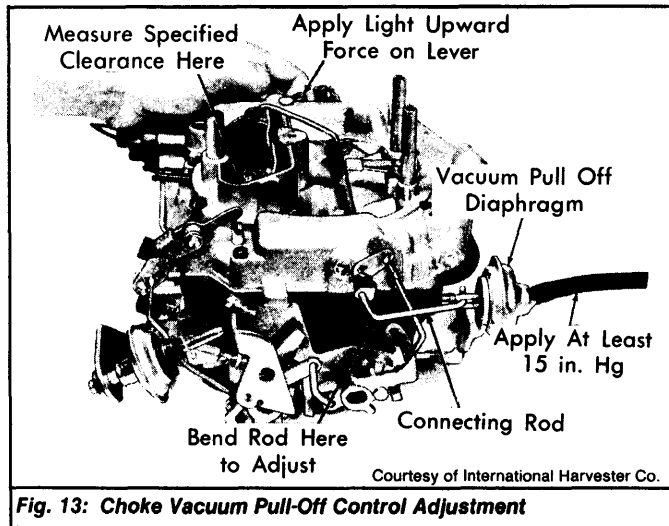

Fig. 13: Choke Vacuum Pull-Off Control Adjustment
2) Measure choke vacuum pull-off specified clearance between lower edge of choke valve and air horn wall. Clearance should be .860". If clearance is not to specification, bend choke vacuum pull-off diaphragm rod. See Fig. 13.